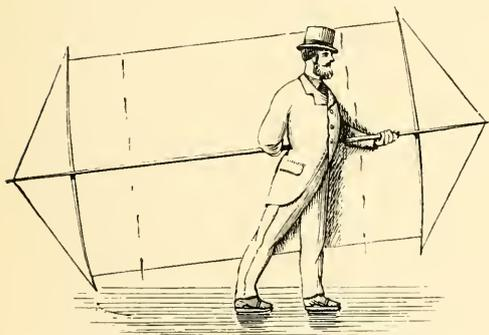

FIG. 322.
*Sailing on Skates.*—In 1879 a gentleman, under the signature of "Glacianaut," published in *The Field* a description of a sail he had contrived for sailing on skates on ice. The sail is made of a piece of unbleached calico, with slightly rounded ends (Fig. 322); each end is attached (either by a lacing or by a wide hem, such as is common in window blinds) to a light stick or yard, of sufficient length